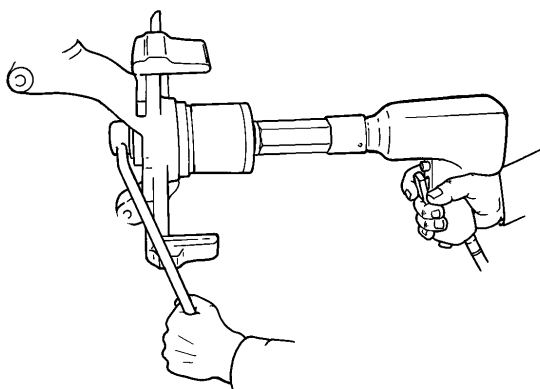

Figure 2
3. Hold the forcing screw with a wrench, and press out the worn bearing as shown in Figure 2.